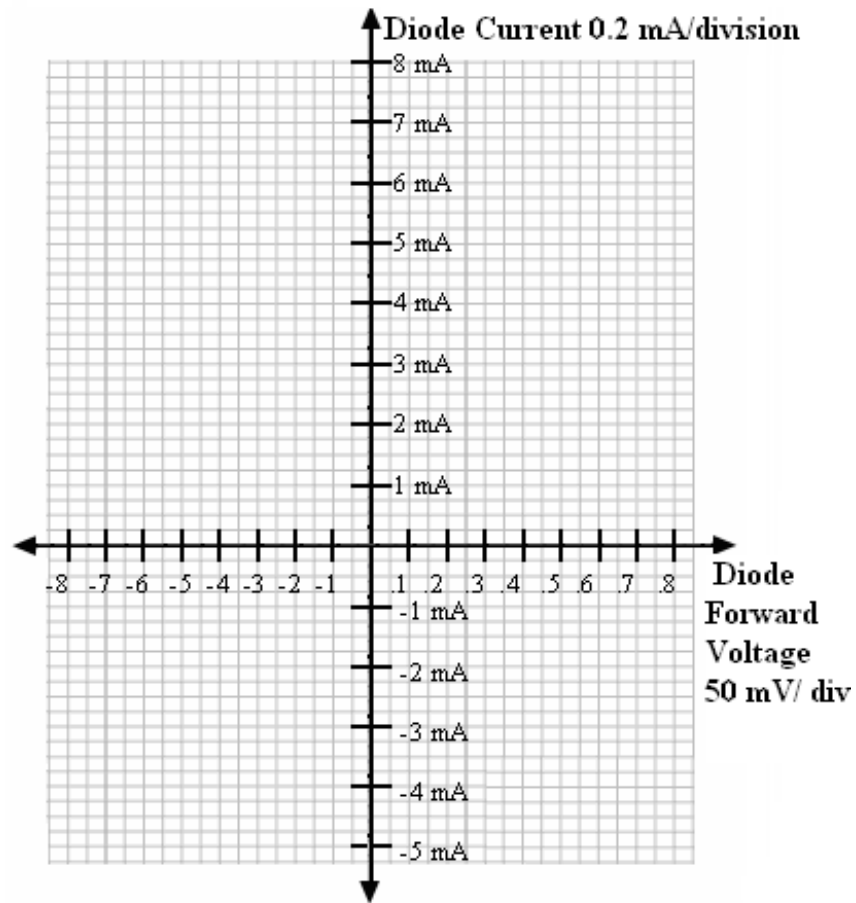

Figure 4.2: Diode I-V characteristic curve
2. Adjust the voltage across the diode from the most negative value to the most positive value possible. Plot eight points on the graph alongside (Figure 4.2). Plot three negative diode voltages and five positive diode voltages to clearly illustrate the one-way nature of the diode.